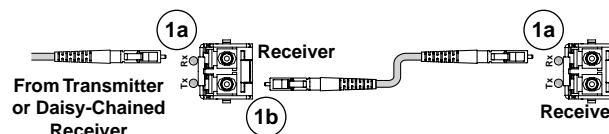

Figure 4. Daisy Chain Configuration
- **One-way (transmitter to receiver) with daisy chain (receiver to receiver)** — Connect fiber cable ①a from a fiber optic source and cable ①b to the next receiver in the daisy chain (see figure 4). Set each receiver in the daisy chain to daisy chain mode. Up to 10 properly-configured receivers can be connected in a daisy chain to a single transmitter.
Daisy chain configuration — For daisy-chained video, audio, and serial communications to the Rx connector on another receiver (see figure 4).